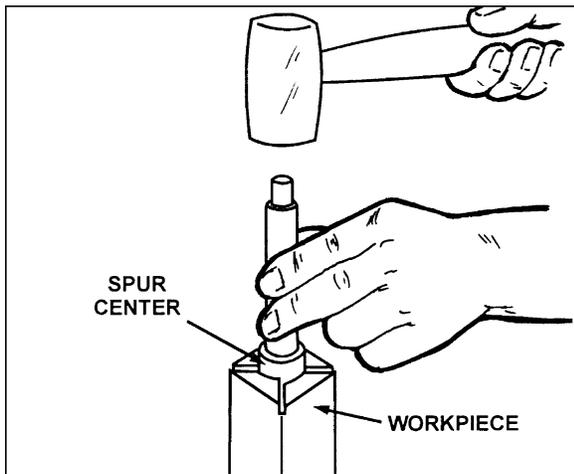

Figure 38
3. Drive the spur center about 1/4" into the workpiece, using a wood mallet or dead blow hammer as shown in Figure 38. Be careful that you do not split the workpiece. **Never use a steel face hammer and never drive the workpiece onto the spur center while it is mounted in the Lathe spindle.**